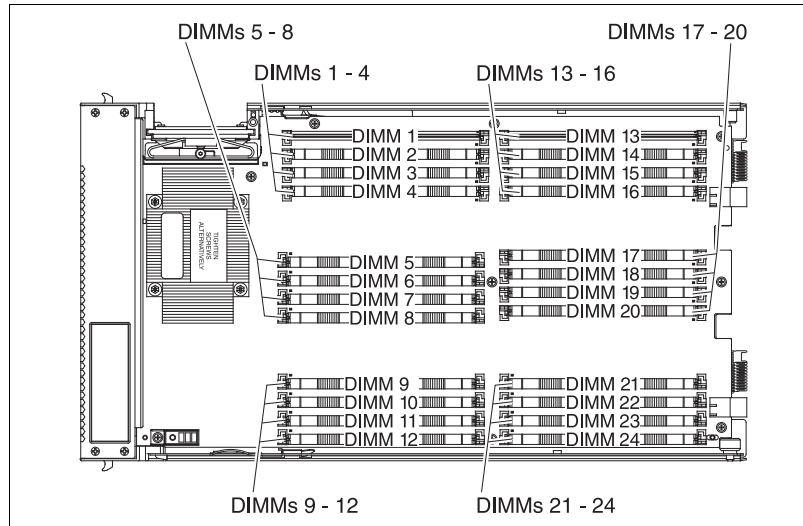

Figure 3-73 DIMM layout on the MAX5 system board
The MAX5 memory expansion blade has 24 memory DIMM sockets (Figure 3-73). The MAX5, which must be connected to an HX5 system (only the 1-node HX5 supports the MAX5), has one memory controller and six SMI connected memory buffers.
- ▶ The data widths for the following quads must match. For example, DIMMs in each quad must be all 4Rx8 or all 2Rx8. See Figure 3-70 on page 355 for the block diagram and Figure 3-73 on page 360 for the physical location of these DIMMs: